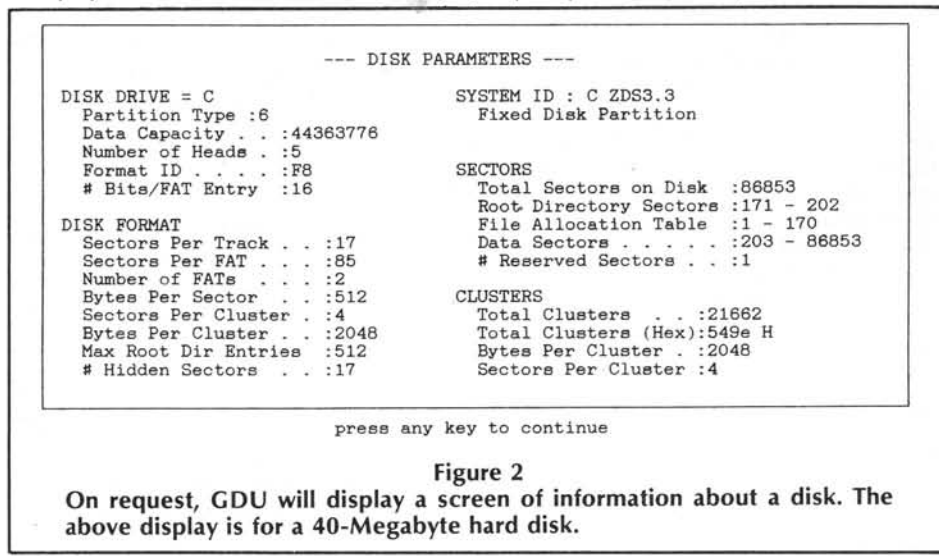

Figure 2
On request, GDU will show you some technical information about a disk. From the main menu select DISPLAY DISK PARAMETERS, and you'll see a screen of information about your current selected disk. Figure 2 shows the disk parameters displayed by GDU for a MicroScience HH-1050 40-Megabyte hard disk. You can probably compute for a lifetime without knowing these parameters, but GDU will show them to you if you want or need to know them. To print out your parameters, press SHIFT-PrtSc while they are displayed.
To understand most of the other disk parameters, we need to define some terms relating to disks. Both hard disks and floppy disks are magnetic recording media in the shape of platters, or disks. Each recording surface on a disk requires a read/write head for reading and writing to the disk. A double-sided floppy has two surfaces, or sides, and thus two heads. Hard disks typically have more than one platter and a recording surface on each side of each platter, though one surface may be reserved for use in positioning the heads. Figure 2 shows that the MicroScience 1050 has 5 heads.
Data is recorded on a disk in circular paths called tracks. The tracks are divided into sectors, usually 512 bytes in length. Figure 2's disk has 512-byte sectors, with 17 sectors per track.
In formatting, most of the disk is divided into clusters, which are the units used when storing files on the disk. Each cluster consists of one or more sectors, with cluster size dependent on disk type. Figure 2 shows a cluster size of 4 sectors, or 2048 bytes, which is typical for a hard disk. We'll see later how the use of clusters helps keep track of where a file is stored on a disk.
As you would expect, if you multiply Figure 2's sector size (512 bytes) times its sectors per cluster (4) times the number of clusters (21,662), you get the disk's data capacity (44,363,776 bytes).
The next group of sectors (sectors 1 through 170 in Figure 2) contains the FAT, which keeps a record of each cluster on the disk and whether it is bad (unusable), in use (holding data), or free for use. The disk keeps two copies of the FAT, so that its information is saved even if one copy is damaged.
Following the FAT is the root directory (sectors 171-202 in Figure 2), which contains information about the files and subdirectories of the disk's root, or parent, directory. Unlike subdirectories, which can grow to any size, the root directory's size is limited (to 512 bytes in Figure 2).
The remaining sectors (203 through 86,853 in Figure 2) are the data sectors, which make up the clusters that store the disk's files and subdirectories. The clusters are numbered, beginning with cluster 2. If a file uses more than one cluster, its clusters need not be in numerical sequence, but each cluster may be used by only one file. Two files may not share the same cluster.